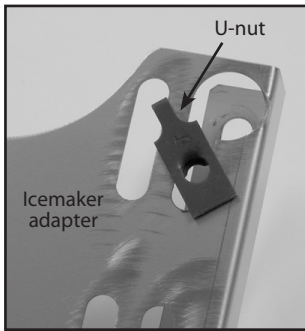
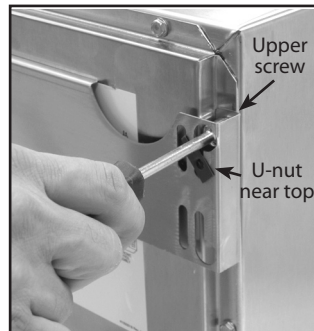
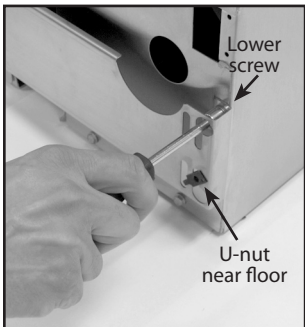
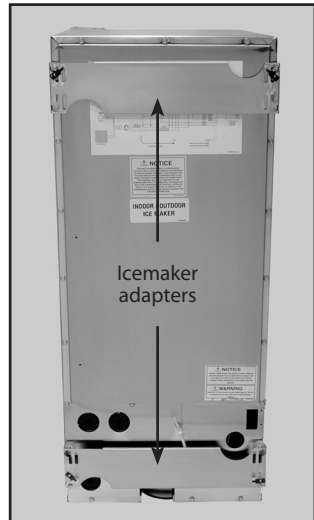

Fig. 03
Fig. 04
Fig. 05
Fig. 06
- Install 2 Tinnerman U-Nuts on Icemaker Adapter (Fig. 03) and attach to upper area of Icemaker as shown (Fig. 04). Repeat for the bottom location (Fig. 05). Tighten all screws at this point. See Fig. 06 for final placement.
3. Install 2 Tinnerman U-Nuts on Icemaker Adapter (Fig. 03) and attach to upper area of Icemaker as shown (Fig. 04 and 05). Repeat for the bottom location. Tighten all screws at this point.
3. Align the bottom front flange with the Icemaker (Fig. 06). Slide the units together so the U-nut holes are visible in the slotted holes of the upper and lower rear flanges of the side panel. Install machine screws (10-24 X 3/8) into U-nuts as shown (Fig. 07 and 08). Do not tighten at this point. Take care not to damage flanges on the female clips.
5. Place the other side panel on the unit by aligning bottom front flange with the Icemaker (Fig. 06). Lift the rear of the side so the U-nut holes are visible in the slotted holes of the upper and lower rear flanges of the side panel. Install machine screws (10-24 X 3/8) into U-nuts as shown (Fig. 07 and 08). Do not tighten at this point. Take care not to damage flanges on the female clips.